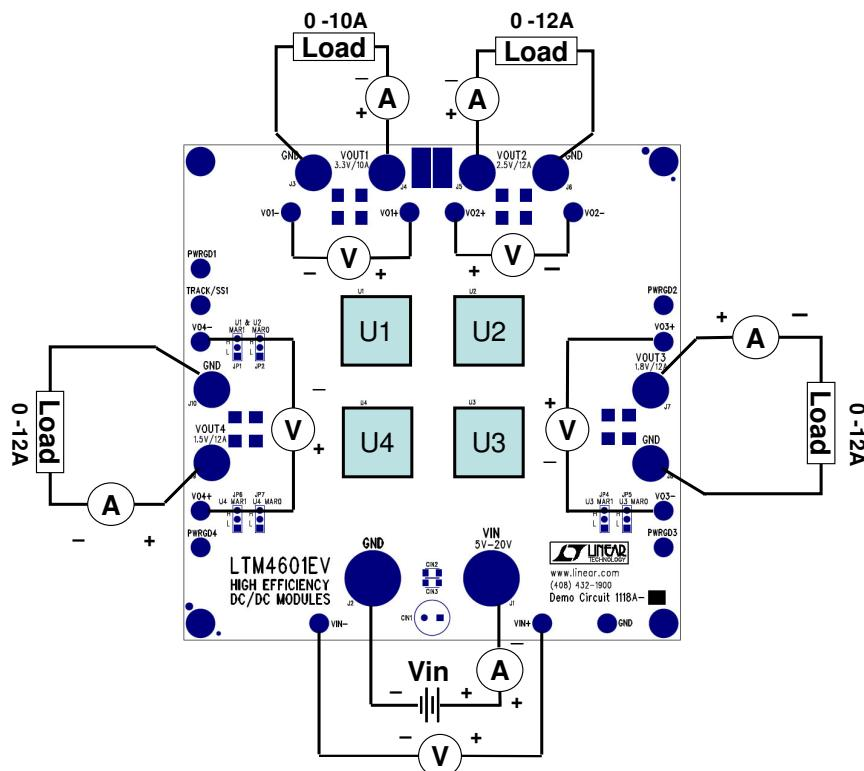

Figure 1. Proper Measurement Equipment Setup
Demonstration circuit 1118A-C is easy to set up to evaluate the performance of the LTM4601EV. Please refer to Figure 1 for proper measurement equipment setup and follow the procedure below:
2. With power off, connect the input power supply, load, and meters as shown in Figure 1. Preset the load to 0A and Vin supply to be less than 20V.